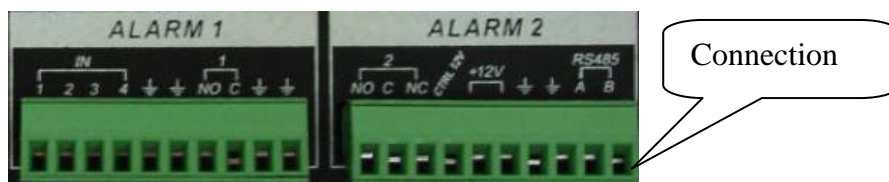

Figure 4-39
- Connect the dome RJ 485 port to DVR 485 port. See Figure 4-39.